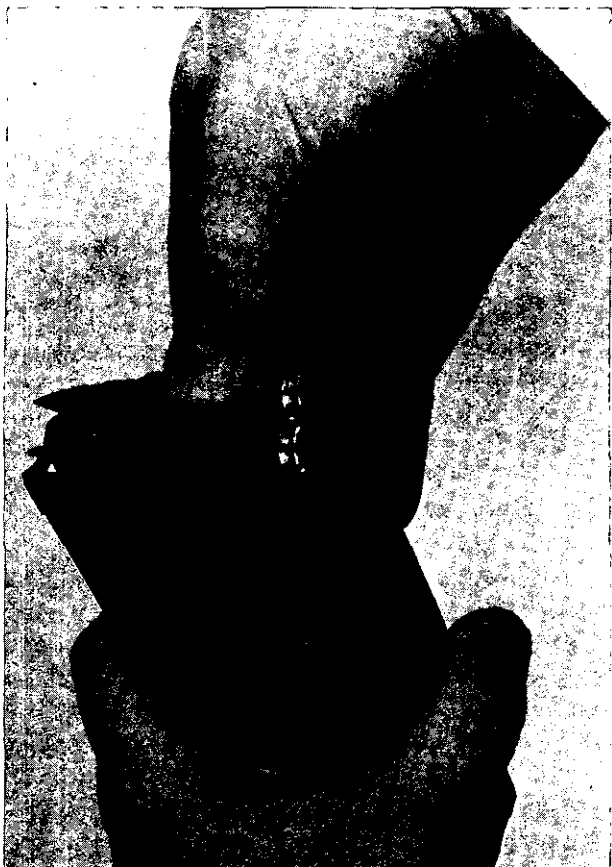

Figure 25. Loading the magazine single round (out of rifle).
a. Place each round on top of the magazine follower (with the bullet end toward the front of the magazine) and apply pressure with the thumb to fully seat the round in the magazine (fig. 25).